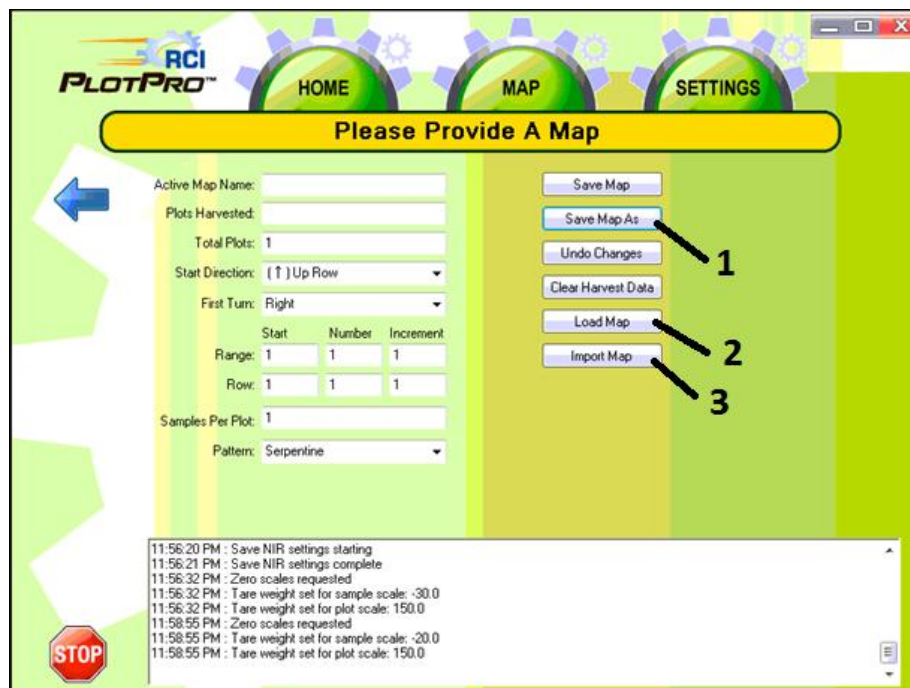

Figure 54. Generate Map Screen
6. On the “Generate Map Screen”, select one of three options as shown in Figure 54.